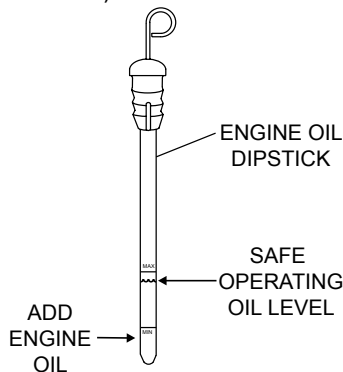

Figure 6. Engine Oil Dipstick
2. Determine if engine oil is low (Figure 6), add correct amount of engine oil to bring oil level to a normal safe level. (See Table 5).